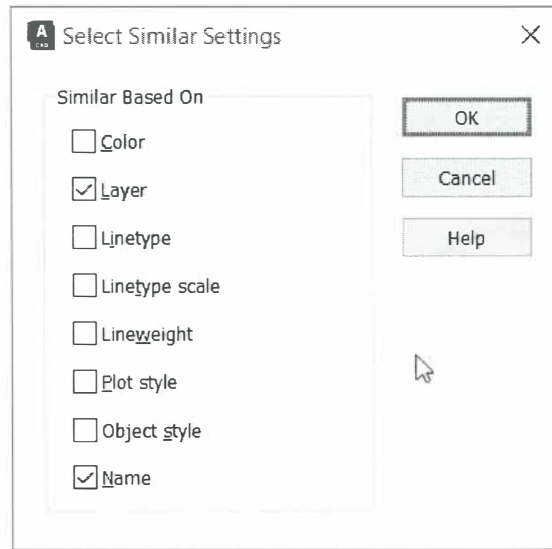

Figure 1–22
3. In the Select Similar Settings dialog box (shown in Figure 1–22), select the property types by which you want to filter the selection set.
If you need to select an object in a location in which many objects overlap, you can use **Object Selection Cycling**. When it is toggled on, and you hover the cursor over an area where some objects are overlapping,  displays, indicating that more than one object can be selected. Clicking on the object displays the Selection dialog box where you can select an object from the list, as shown in Figure 1–23.